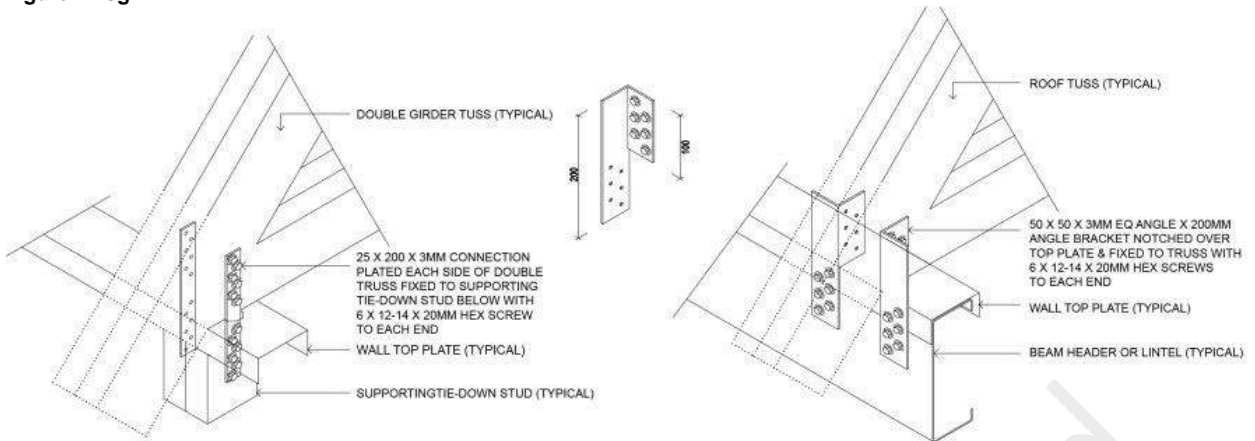
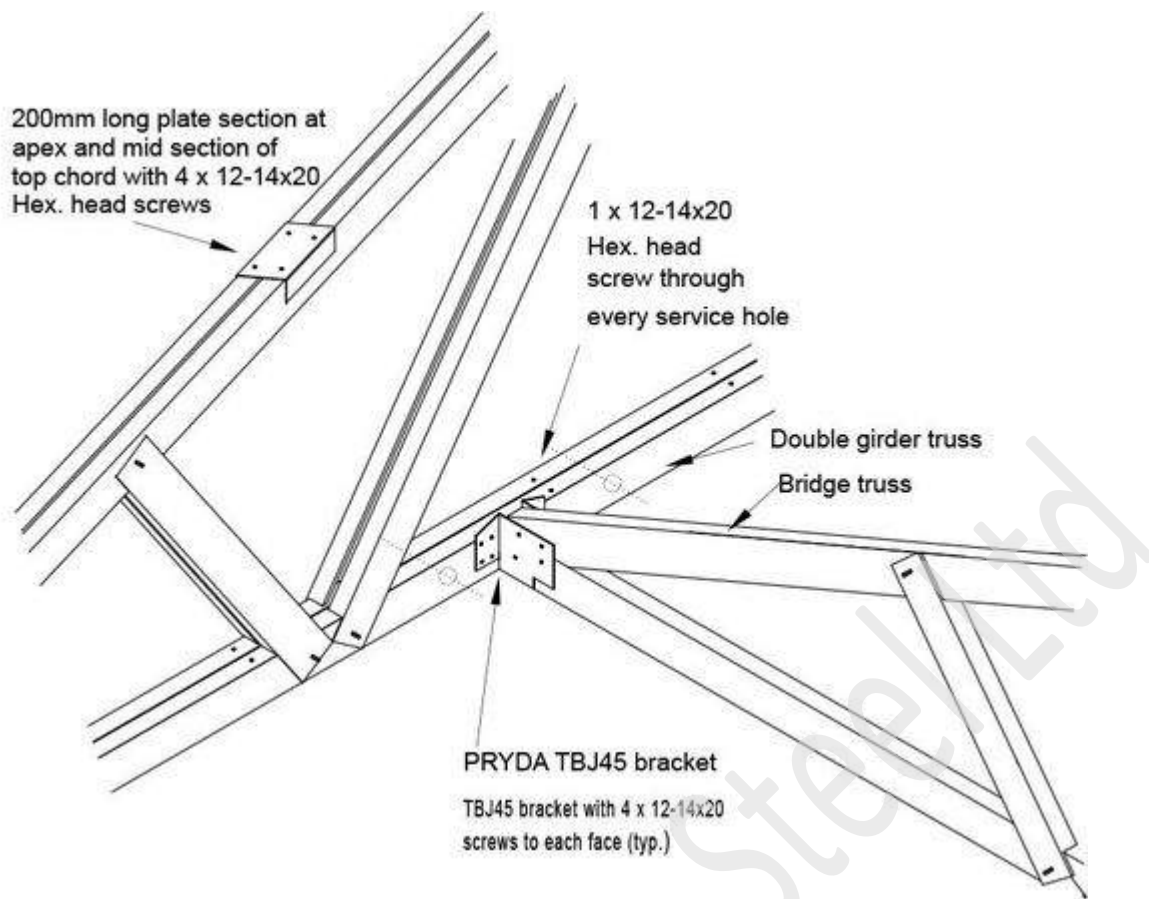

Figure 7.28d Double Girder Truss Hold down with angle and strap tie down option
Figure 7.28f Double Girder Truss Connection
STEP 6: Install the bridge trusses to the external wall and girder truss as shown in Fig. 7.28f.
STEP 7: Install the second ply girder truss (if applicable) with the toes of both trusses facing each other and fix it to the brackets as shown in Fig 7.28d. Install 1x12-14x20 Hex Head screws through EVERY service hole provided on the bottom chord to connect the two trusses together as shown in Fig. 7.28f Install 200 long plate sections with 4x12-14x20 hex-head screws to top chord near apex and midspan of top chord.